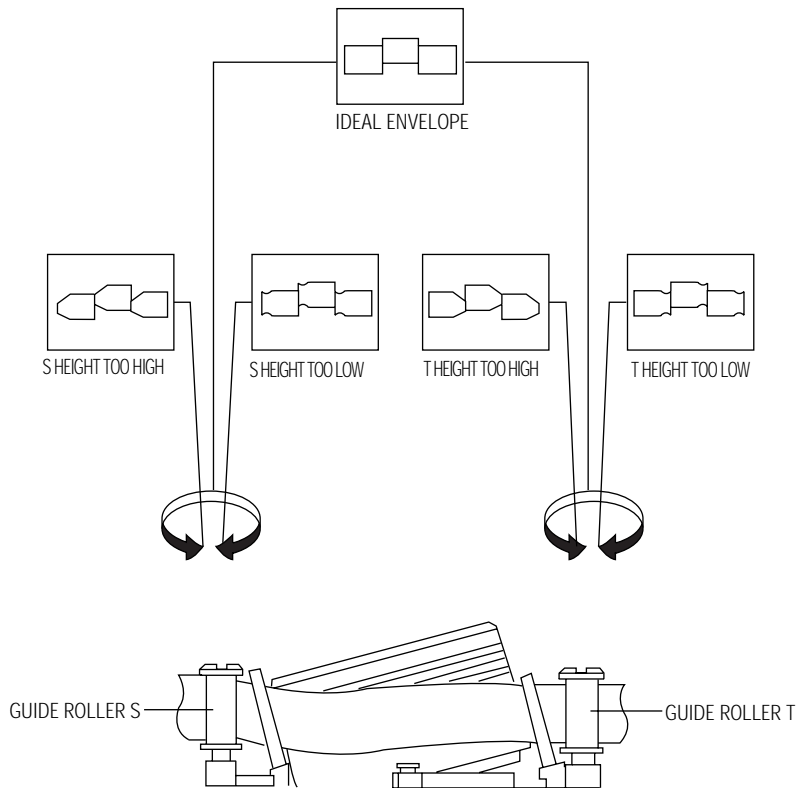

Fig. 6-16 Guide Roller S, T Height Adjustment
- 8) Turn the guide roller heads with a flat head (🔩) driver to obtain a flat video RF envelope as shown in Fig. 6-16.